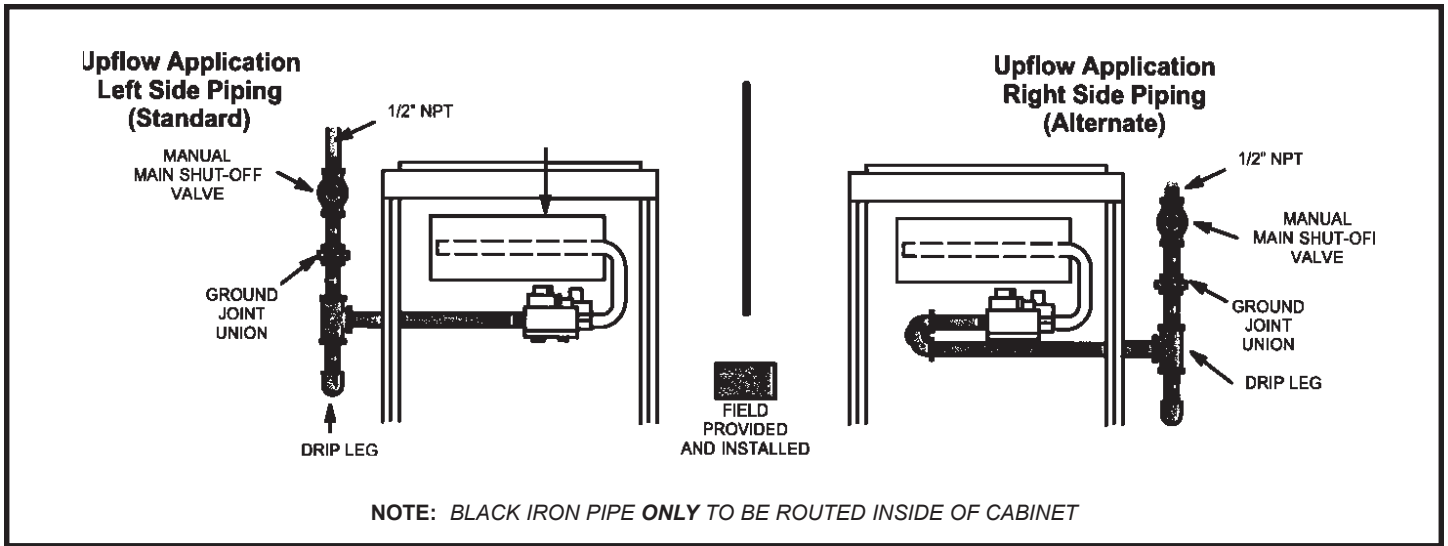

Figure 36
1. Gas piping may be routed into the unit through either the left or right hand side in upflow applications, and either the top or bottom in horizontal applications. Supply piping enters into the gas valve from the side of the valve as shown in Figures 36 and 37.
3. Gas piping must not run in or through air ducts, clothes chutes, chimneys or gas vents, dumb waiters or elevator shafts. Center gas line through piping hole. Gas line should not touch side of unit. See Figures 36 and 37.